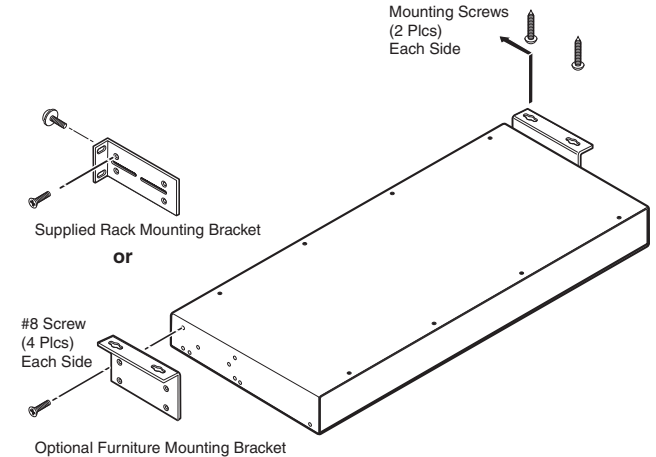

Figure 2-1 — Mounting the DA
The following Underwriters Laboratories (UL) requirements pertain to the installation of the FOX 500 DA6 into a rack (figure 2-1).
- Attach the rack mounting brackets to the DA with the supplied eight #8 machine screws (figure 2-1).
- Secure the two table/wall mounting brackets to the unit with the eight machine screws provided in the kit (figure 2-1).